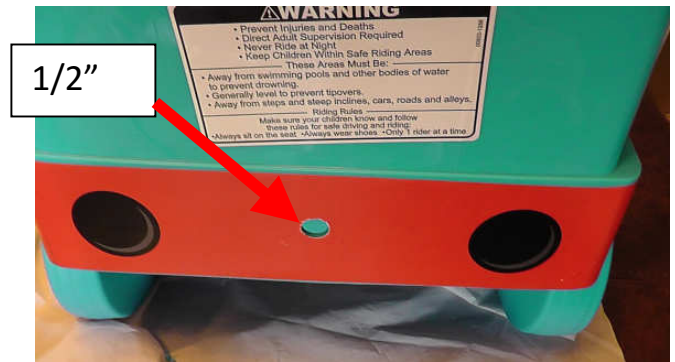

Fig. 4 Drill a 1/2" Hole for Switch
4) Working from the rear of the car, drill a 1/2" hole in the rear bumper for the Parent Switch. See Fig. 4